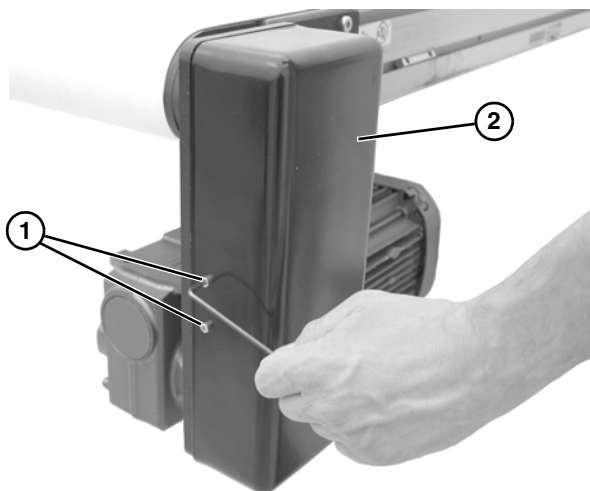

Figure 15
1. Remove four (4) screws (**Figure 15, item 1**) and remove cover (**Figure 15, item 2**).
4. Install cover (**Figure 15, item 2**) with four (4) screws (**Figure 15, item 1**). Tighten screws to 35 in-lb (4 Nm).